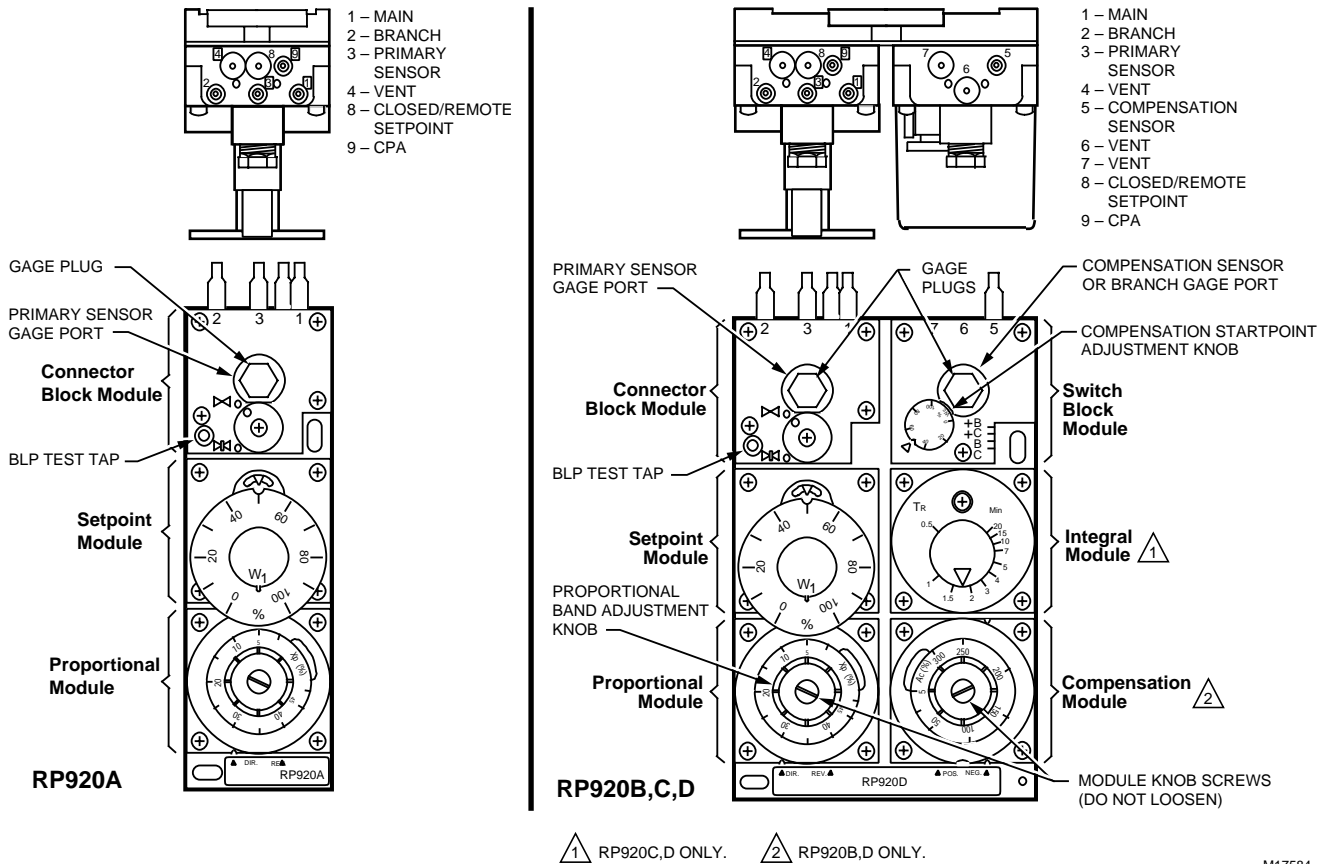

Fig. 2. Module and port Locations.
1. If a connection to port 4, 6, 7, or 8 (Fig. 2) is required, remove the self-tapping screw from port 8 and use the screw to tap the appropriate port.
1. Push the tubing on the port barb fittings according to the job drawings. See Fig. 2 for port locations.
The position of the gasket located under the switch block module (Fig. 2) determines the function of the field-installed Switch Block Module gage and enables/disables the integral action cut-off function. See Table 1 for factory and field settings.
Adjust the proportional band (X_p), according to the job drawings, using the proportional module proportional band adjustment knob (see Fig. 2).